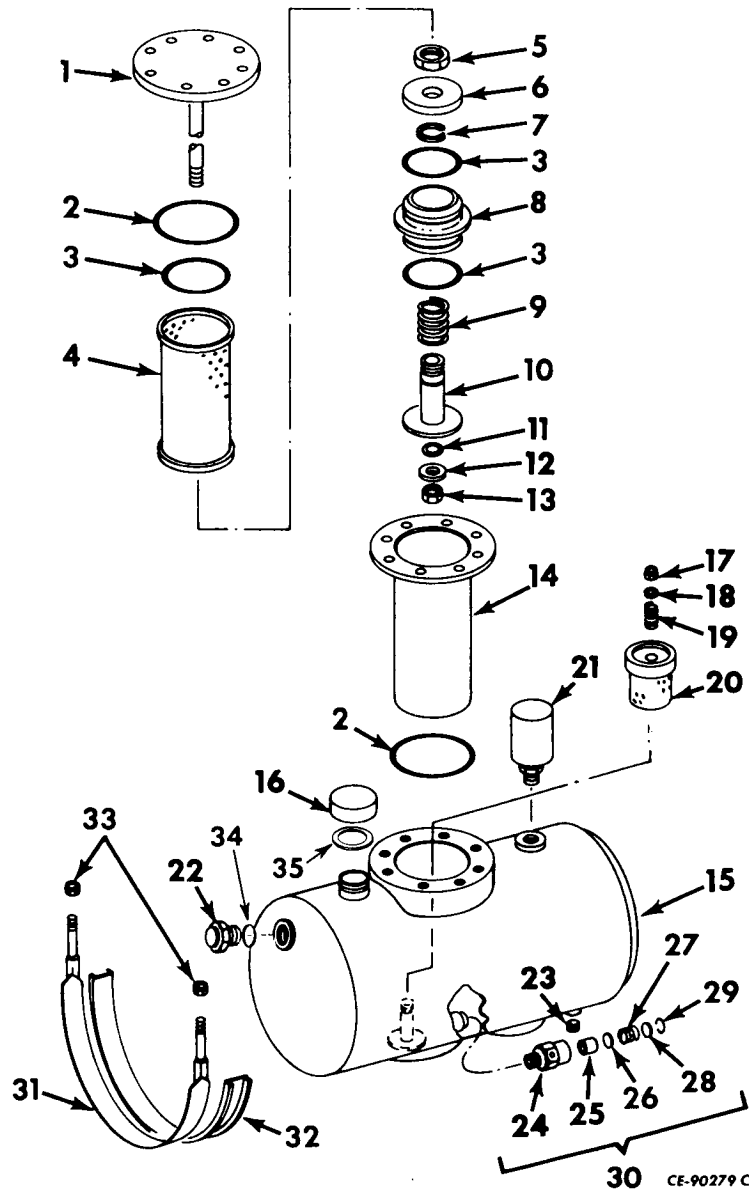

Fig. 38. Hydraulic Reservoir Filters
DRAINING THE RESERVOIR (Fig. 38)
SERVICING THE RETURN LINE FILTER (Fig. 38)
SERVICING THE SUCTION SCREEN (Fig. 38)
1. Remove filler cap (16, Fig. 38) on the reservoir.
2. Remove the lock ring (2) and cover (4).
3. Remove the filter (5) and clean in a suitable solvent. Dry thoroughly.
4. Check the seal rings (3) for wear or deterioration. Replace them if necessary.
5. Replace the filter (5) and cover (4). Secure with ring (2).
6. Reinstall the filler cap (16, Fig. 38).
FILLING THE RESERVOIR (Fig. 38)